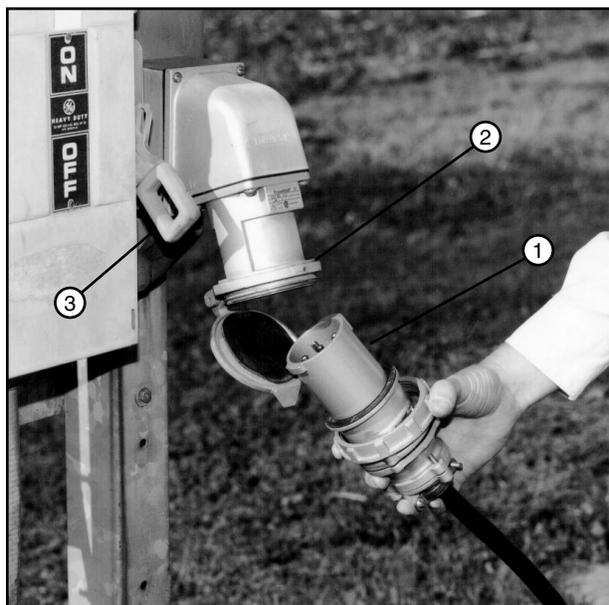

Figure 46-1 1. Power Plug
19. Plug the power plug into the receptacle. See Figure 46-1.